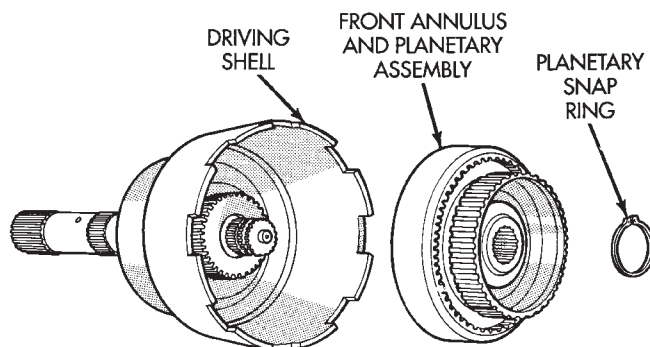

Fig. 162 Front Annulus And Planetary Assembly Removal
- (1) Remove planetary snap ring (Fig. 162).
- (2) Remove front annulus and planetary assembly from driving shell (Fig. 162).